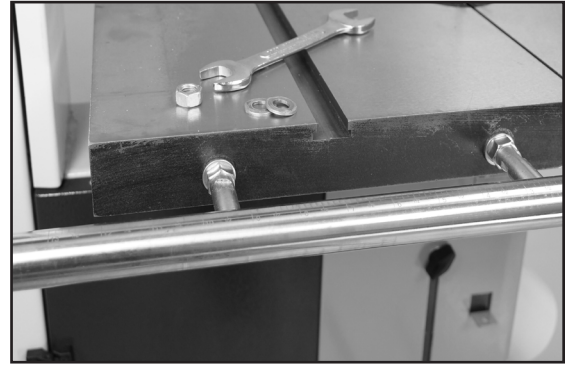

Figure 5
1. Mount the fence Guide Rail (#12F) onto the front table edge with the two fence bar Nuts and Washers (#14F, 5F) Fig. 5. Position the bar so that it is parallel with the table surface, and equal distance out from the front edge of the table when measured at both left and right front edges of the table.
The 4" dust port under the table is installed on the frame above the lower door knob. Locate four 4mm pan head screws and four 4mm flat washers from the hardware pack. Using a Phillips-head screw driver install the screws through the dust port flange into pre-threaded holes in the frame. See Figure 5.